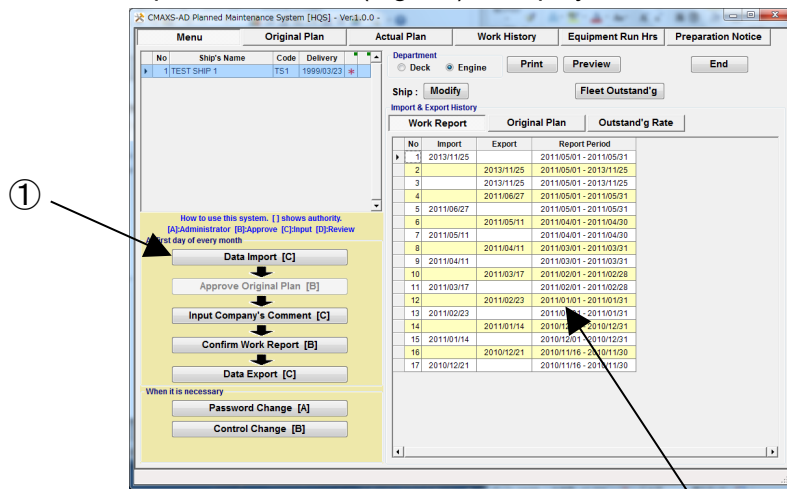

Fig.5-1 Menu Screen
(1) On the "Menu Screen"(Fig.5-1), select [Data Import].